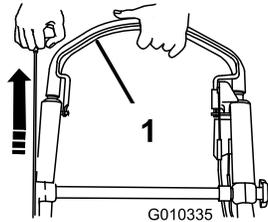

Figure 24
3. Hold the blade-control bar against the handle and pull the recoil-start handle (Figure 24).